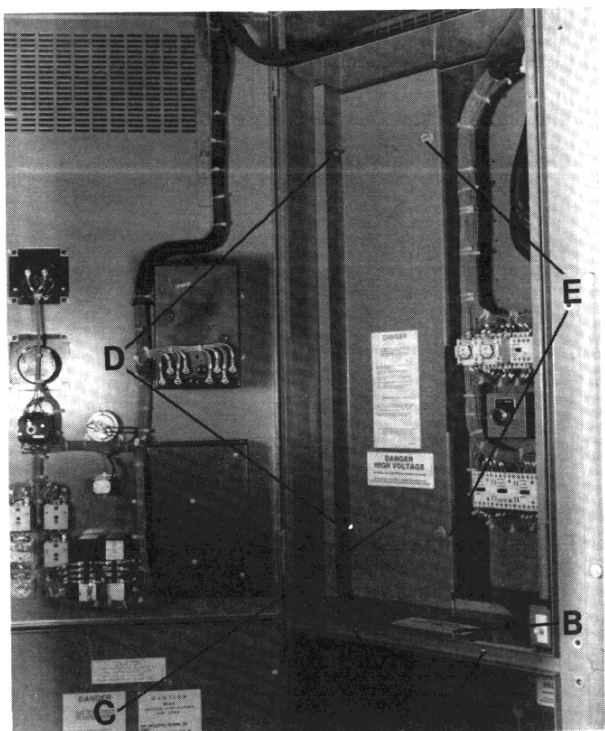
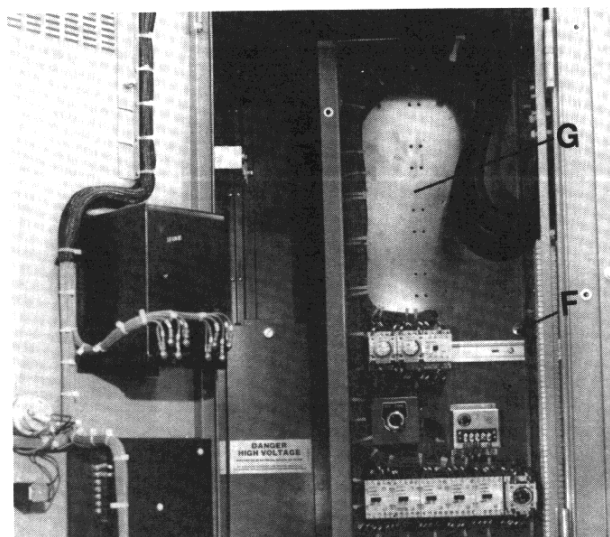

FIGURE 2
FIGURE 3
1. Remove screws (A) (See Figure 2).
2. Push front portion of horizontal barrier (B) down into medium voltage compartment. When barrier (B) is in a vertical position, remove barrier by disengaging it from slot in horizontal barrier (C).
3. Loosen nuts (D) and thumb screws (E).
4. Move vertical barrier (C) forward to allow slotted holes to clear nuts (D).
5. Remove barrier (C). Thumb screws (E) remain held captive to barrier.
6. Loosen low voltage compartment retaining nut (F) (See Figure 3).
7. Pull low voltage compartment (G) forward and swing it to the right.
Load cables, entering controller from top, are routed behind low voltage compartment. This area is accessible after removing horizontal barrier (B) and vertical barrier (C) (See Figure 2). Refer to LINE CABLE CONNECTIONS section for barrier removal instructions.